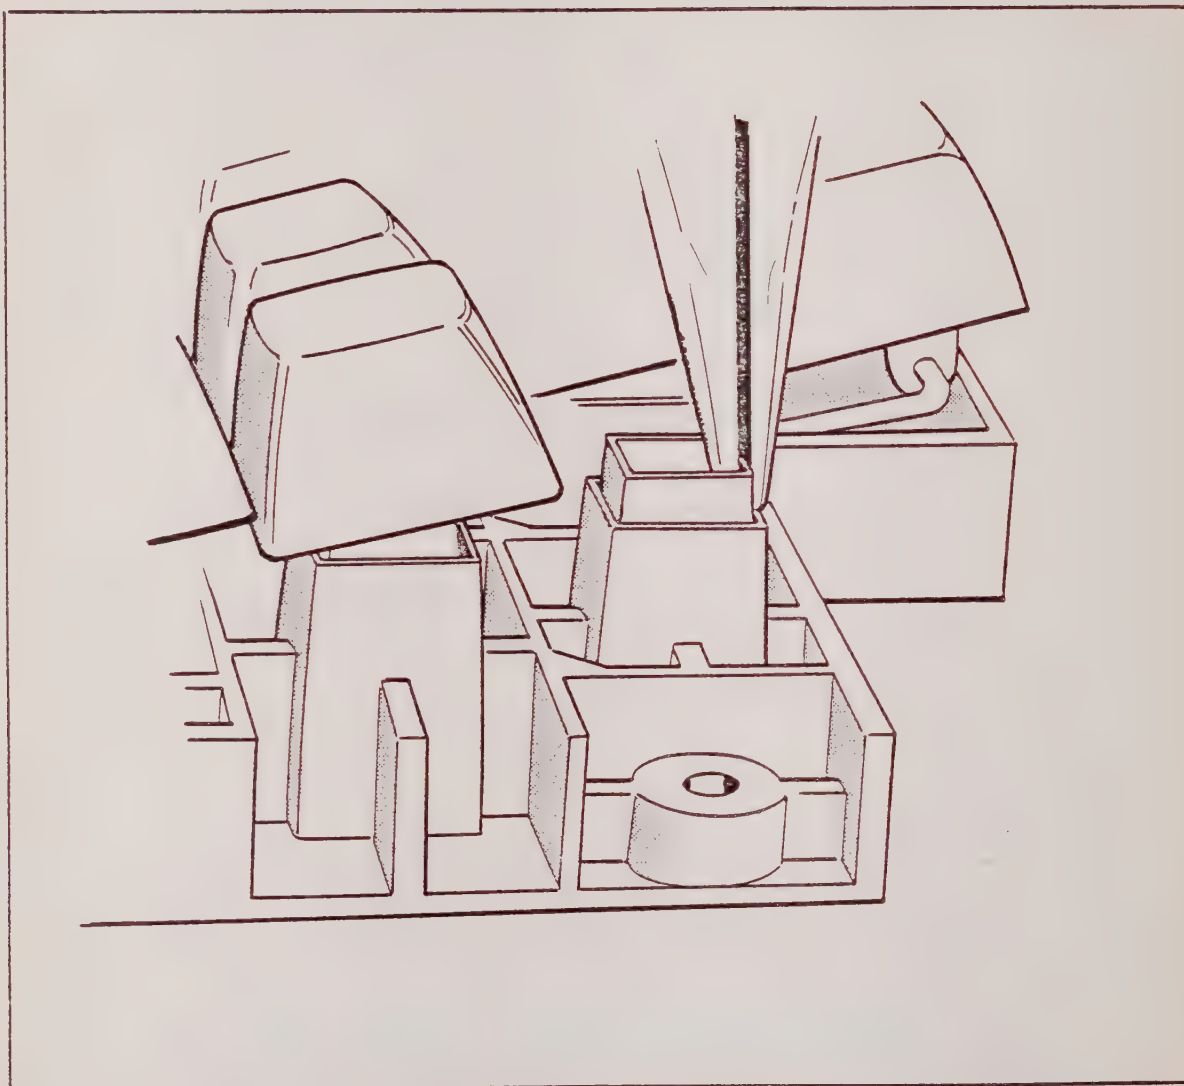

Figure 5-1. Removing The Plunger
5. With the pliers, firmly grasp the plunger in the corner (see figure 5-1). Pull straight up firmly.